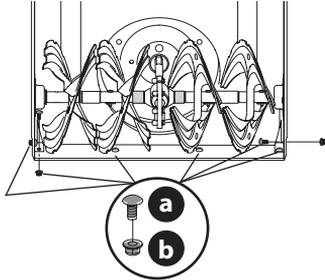

Figure 77
3. Remove carriage bolts (a) and hex nuts (b) which attach it to auger housing (Figure 77).
4. Reassemble new shave plate, making sure heads of carriage bolts are to the inside of housing. Tighten securely (Figure 77).